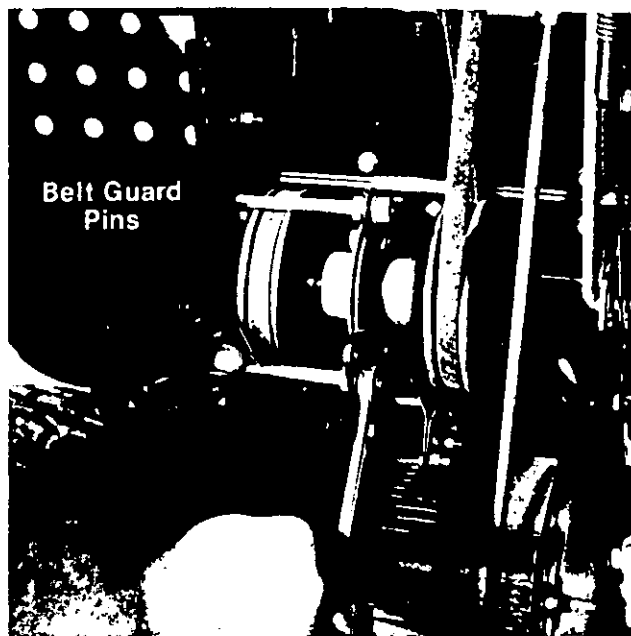

FIGURE 23.
- Remove the two belt guard pins on the pulley assembly. See figure 23.